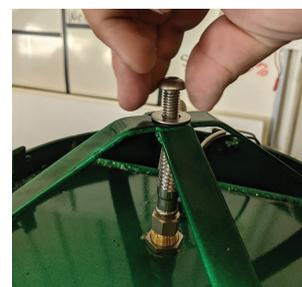

Figure 1 - Step 3
3. At the top support brace of the base unit, remove the mounting bolt and washer if present. (See Figure 1).